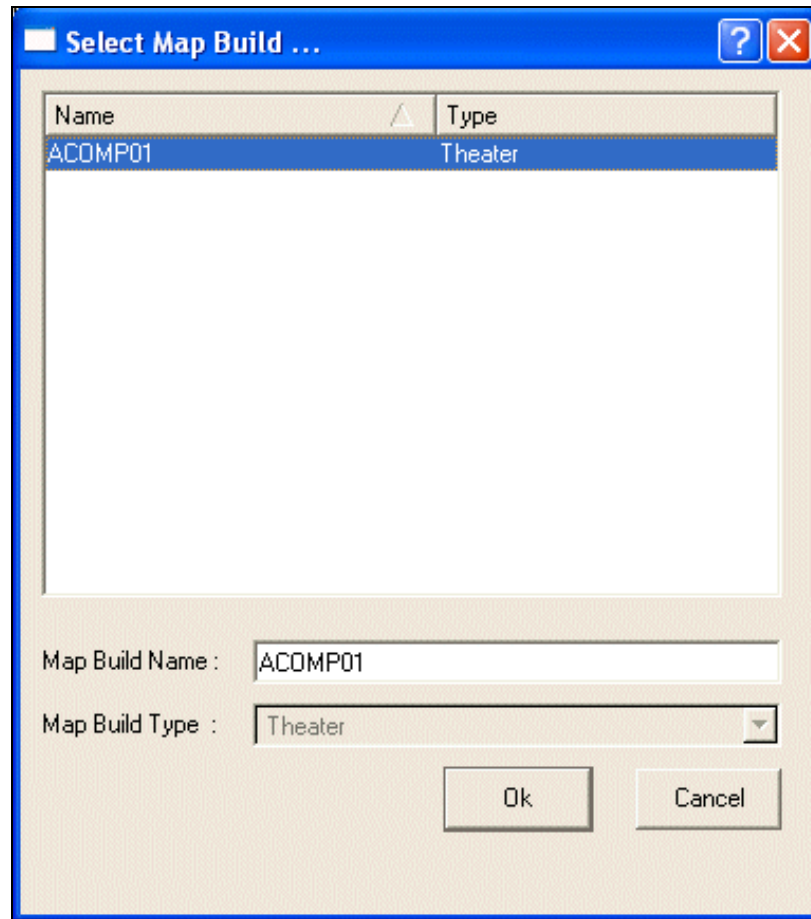

Fig. 65 — Write theater map browser
1. From the MMCPC main window, click Build, then Write Theater Map (Fig. 32). Double click on the name of theater map to be written (Fig. 65). Note that the map load name is the same as its corresponding composition, including its two-digit edition number.